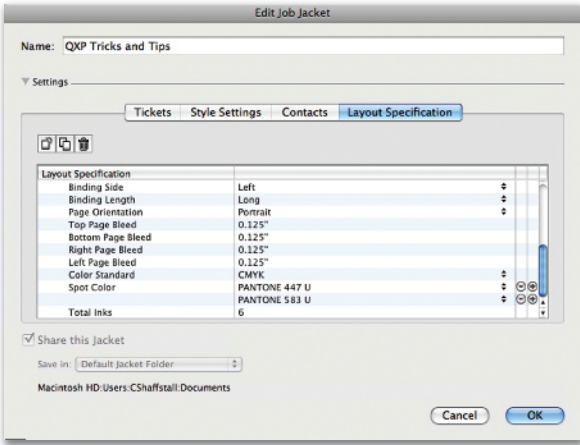

Figure 5 Review
Step 8 Scroll through the rest of the parameters to become familiar with the options available and define any that you choose. See figure 4. *Optional:* Scroll to the bottom of the layout specifications list to spot inks. If you want to add more than one spot color, click the **PLUS SIGN** next to the far right of this line and define a second color. Check out figure 5.